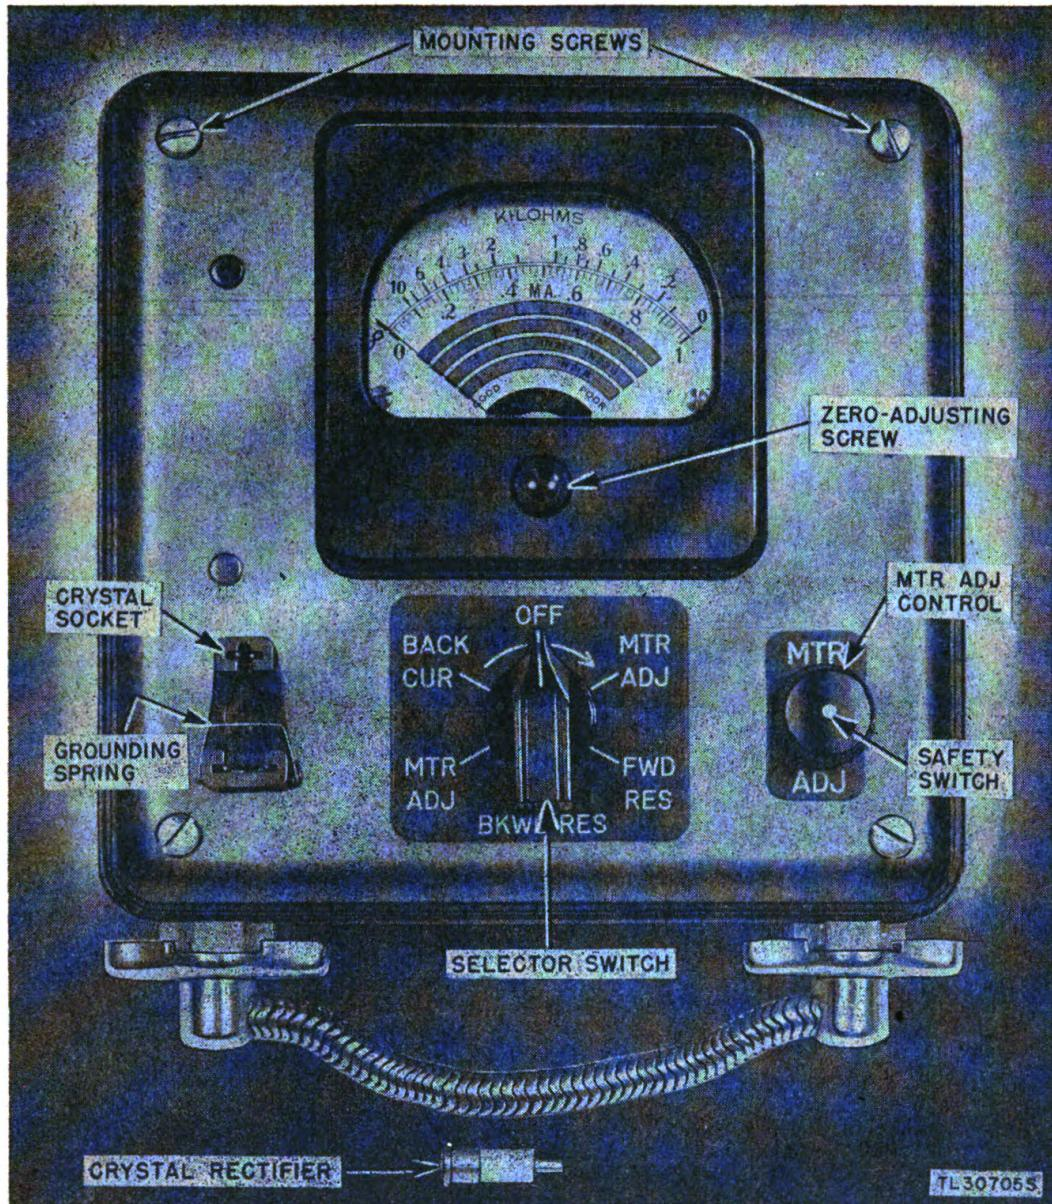

Figure 3. Front panel of test set.
Crystal Rectifier Test Set TS-268/U (fig. 1) is designed to make speedy qualitative tests on specific types of high-frequency crystal rectifiers. The test set is completely self-contained in a waterproof aluminum case approximately 3 inches high by 6 inches wide by 7 inches deep (fig. 2). On the front panel of the instrument (fig. 3) are mounted a crystal socket, a circuit selector switch, a meter adjusting control, and a specially calibrated 0-1 direct-current (d-c) milliammeter. A grounding spring is incorporated in the crystal socket in order to prevent damage to the crystal while it is being inserted into the circuit of the test set.
- b. The control marked MTR ADJ in the lower right section of the instrument panel adjusts the meter pointer to the zero mark on the scale when the circuit selector switch is in either of the two MTR ADJ positions (fig. 3). The MTR ADJ control has a built-in automatic shut-off switch which is actuated when the case cover is closed. The operation of this switch opens the battery circuit, thereby eliminating the possibility of leaving the equipment turned on when it is not being used, with consequent drain on the battery.
- a. A crystal rectifier usually consists of a small piece of silicon in contact with a thin tungsten wire (called "catwhisker") both mounted in a small cartridge-like container (fig. 3). Rectification, which occurs at the contact point between the crystal and the catwhisker, takes place because the resist-
To test a crystal rectifier of normal polarity (see par. 8 for crystals of reverse polarity), rotate the circuit selector switch **clockwise** to the positions shown on the instrument panel (fig. 3). The indications are obtained on the meter. Follow the step-by-step procedure outlined below: